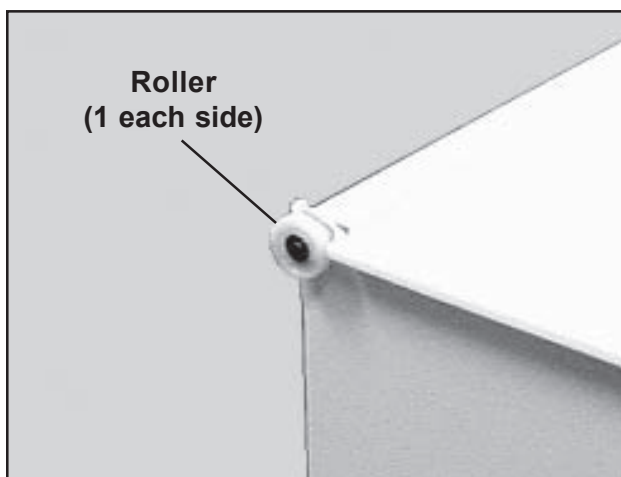
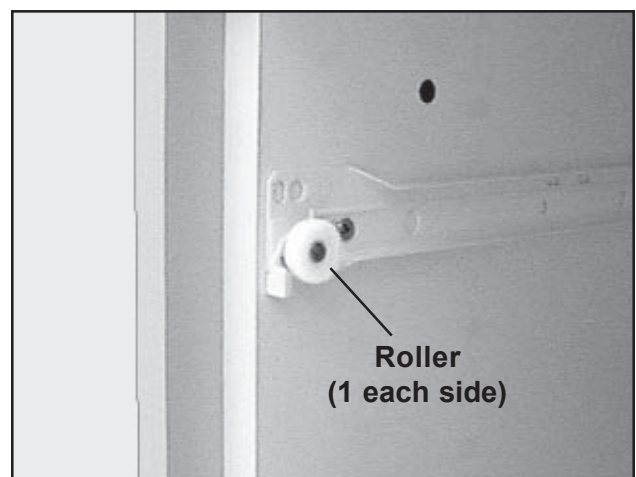

Figure 20. Roller on Rear of Drawer.
Figure 21. Roller on Cabinet Wall
3. To replace the drawer, slide the rollers at the rear of the drawer (Figure 20) over the rollers on the cabinet wall (Figure 21), then gently push the drawer in.